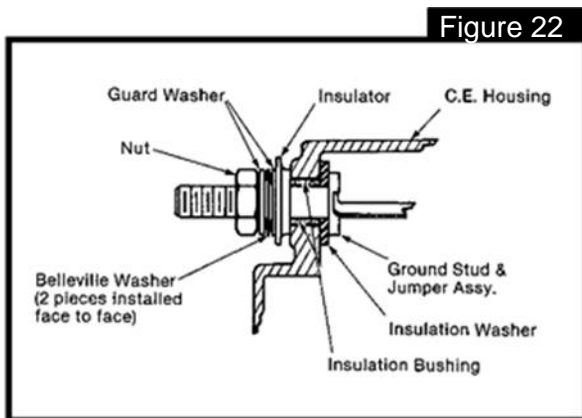

Figure 22
14. Install insulation washer, guard washer belleville washers if originally fitted, and nut onto ground stud as shown in figure 22. Torque to 23-27 lbf-ft.